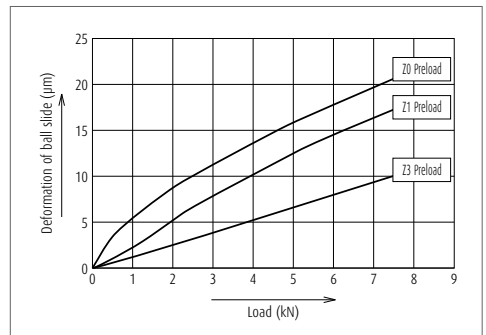

Fig. 3.3 Rigidity of NH35, downward direction load (example)
- > **Fig. 3.3** shows the relationship between the ball slide deformation and the external vertical load under a specified preload. NH35 is used as an example.